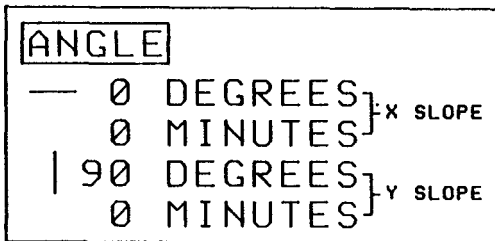

Fig 1
- 3 Move XY and press and release L to switch on the top ANGLE flag (Fig 1).